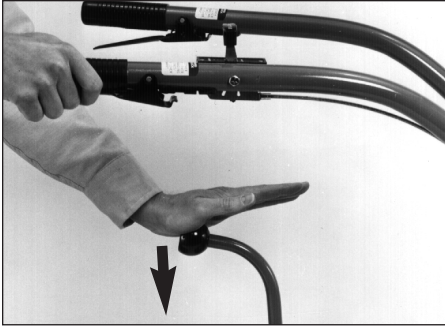

Figure 4-3: Moving tiller forward: squeeze one Forward Interlock Lever and then move Wheels/Tines/PTO Drive Lever down to FORWARD.
5. To move the tiller forward and engage the tines, squeeze and hold either Forward Interlock Lever (Figure 4-3) against the handlebar grip, then move the Wheels/Tines/PTO Drive Lever down to FORWARD position.
5. Squeeze and hold just one of the Forward Interlock Levers against the handlebar grip while moving the Wheels/ Tines/ PTO Drive Lever down to FORWARD (Figure 4-3). As the tiller moves forward, release the Forward Interlock Lever briefly. The engine should start to stall out if the interlock system is working properly. If it does start to stall, quickly squeeze the lever up against the handlebar grip, and then return the Wheels/ Tines/ PTO Drive Lever to NEUTRAL. Repeat this test to check that the engine begins to stall out when the other Forward Interlock Lever is released.